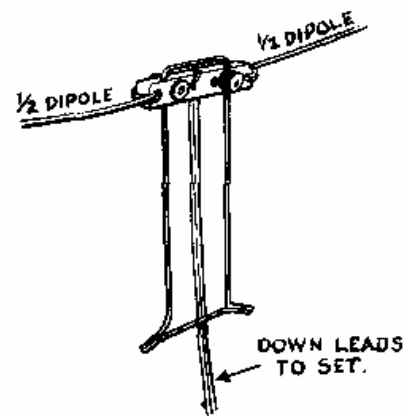

FIG. 24 - DIPOLE FEEDER ARRANGEMENT
- (f) Attach the ends of the aerial wires to the feeder terminals as shown in Fig. 24.